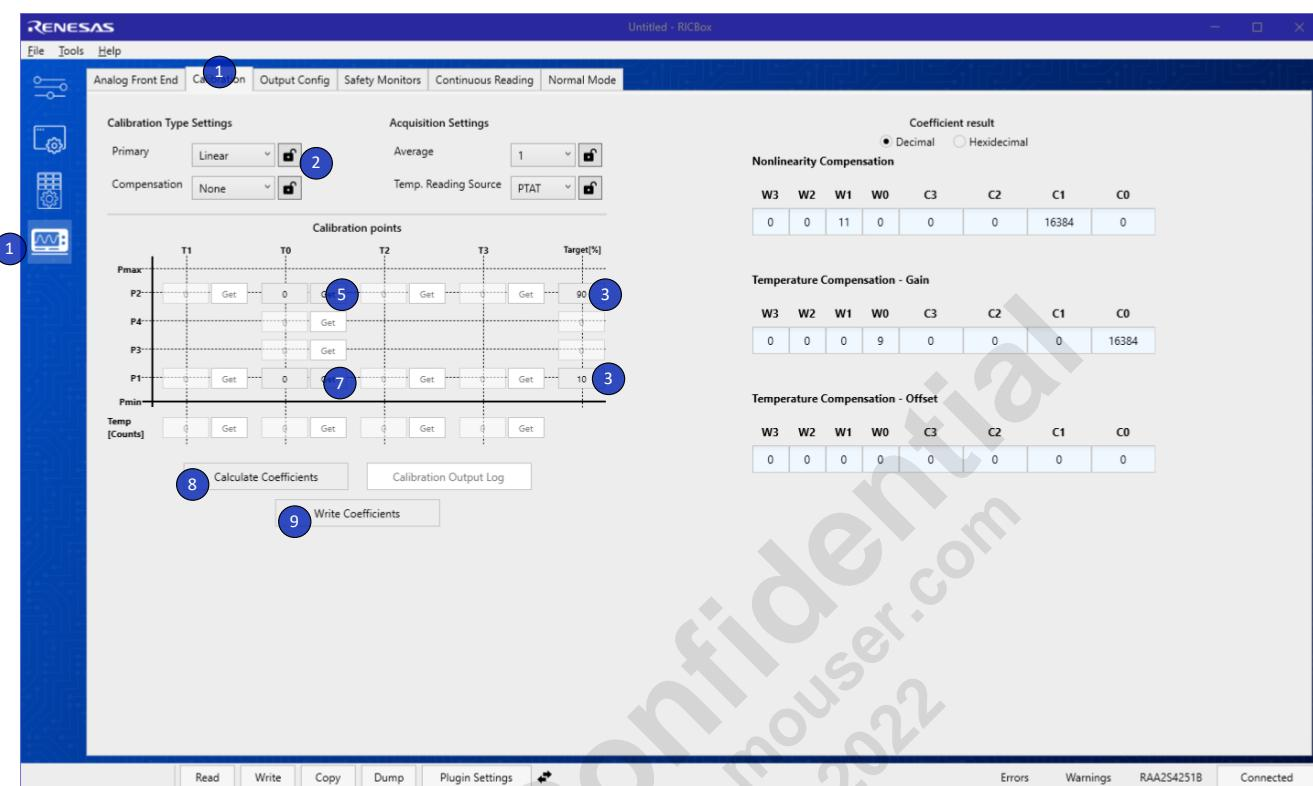

Figure 12. Calibration Tab
1. Click on “Calibration and Reading” page and then on “Calibration” to open required tab as shown on Figure 12.